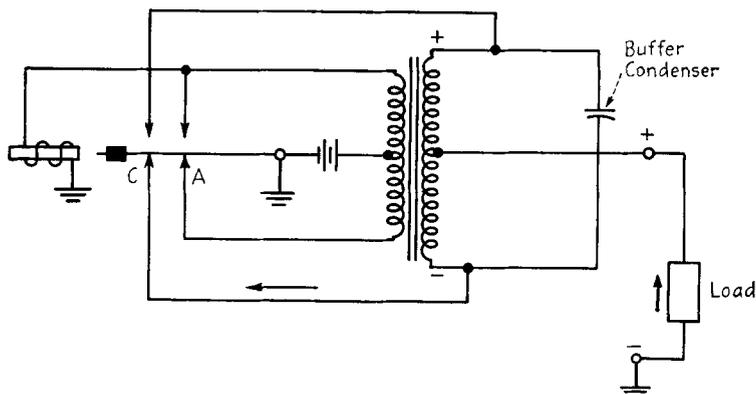

FIG. 21-20. The synchronous vibrator: operation position 1.
**The synchronous vibrator.** Some receivers use an extra pair of points in the vibrator to act as a mechanical rectifier, which replaces the rectifier tube. The circuit used is that of Fig. 21-20. When the contact at A is